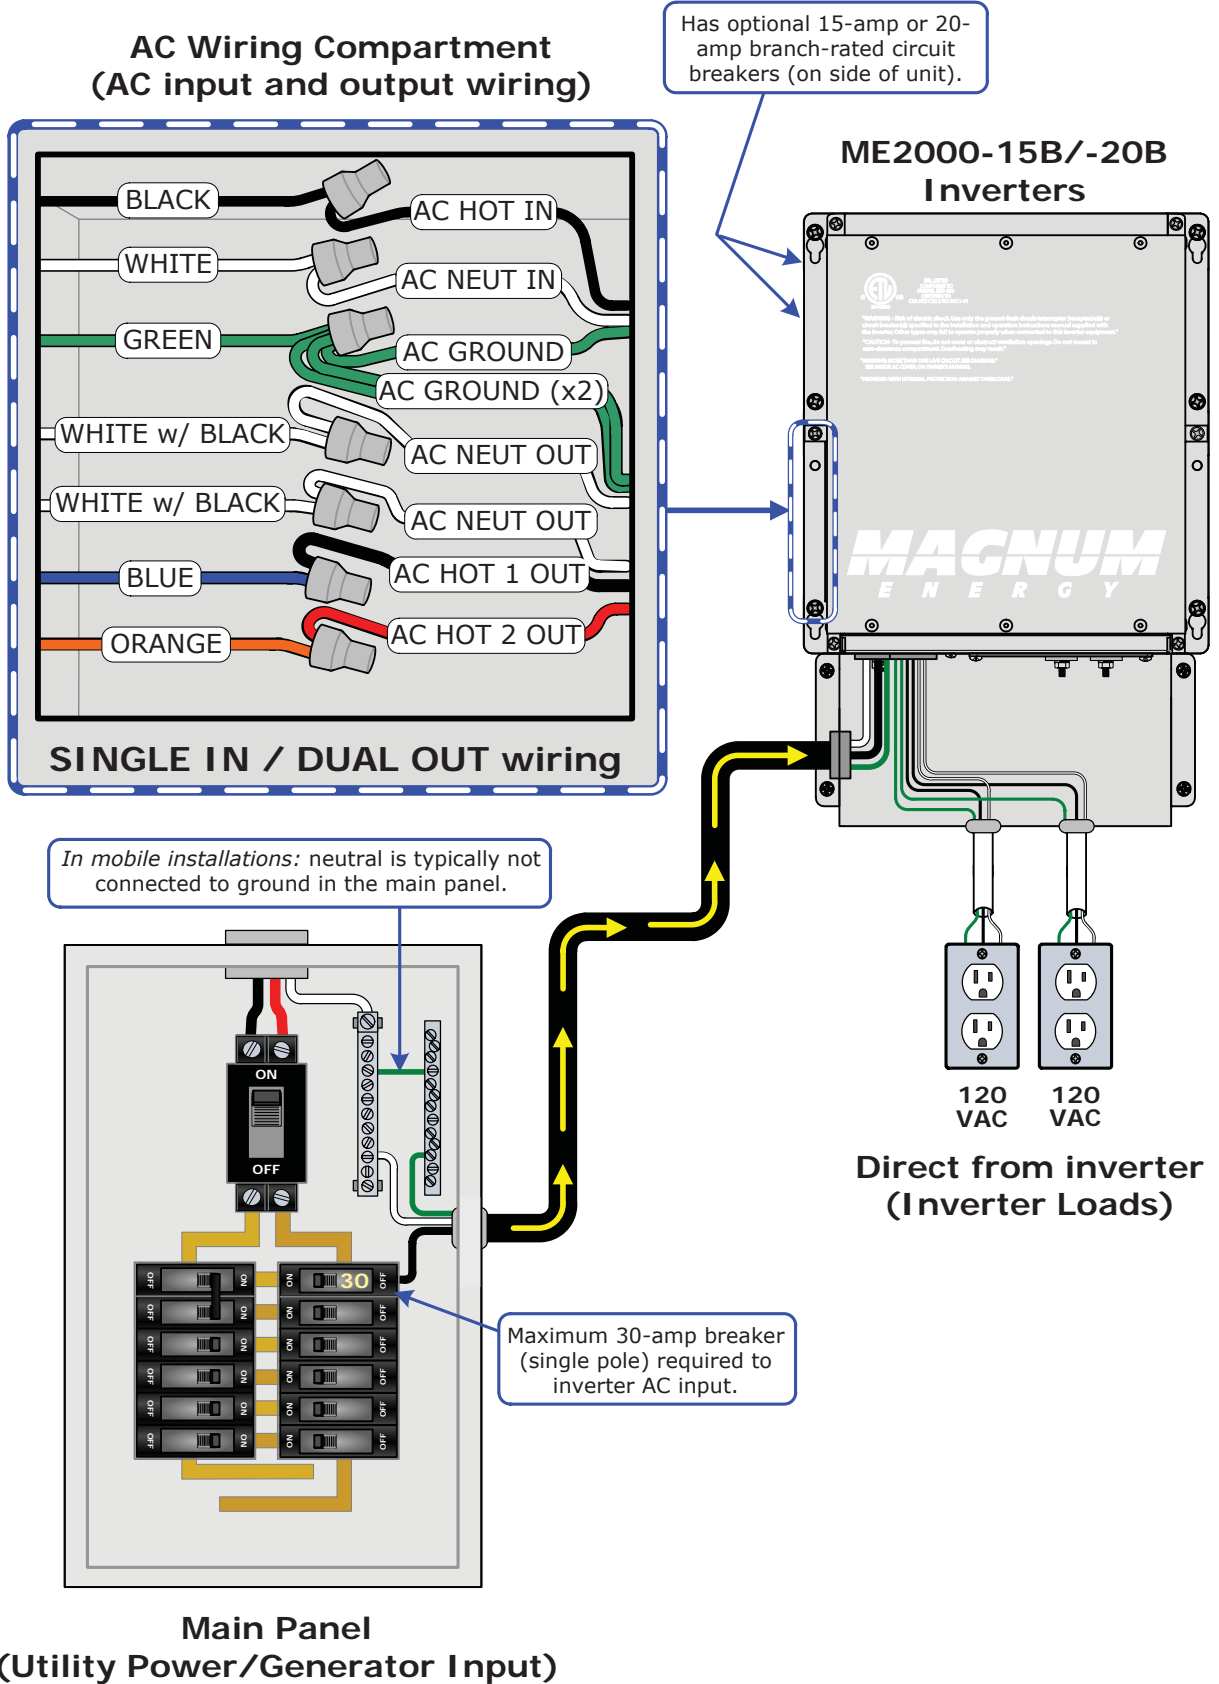

Figure 2-15, AC Wiring for ME2000-15B/-20B Models
**Info:** Depending on the AC wiring configuration, you may need to connect a wire to the inverter's HOT 2 OUT (orange) wire (see Figure 2-15).
3. Connect the inverter's NEUTRAL OUT (white w/black) wire to the sub-panel's neutral busbar (or to the neutral connections on the outlets, if using the output breaker versions - see Figure 2-15) using field wiring leads.